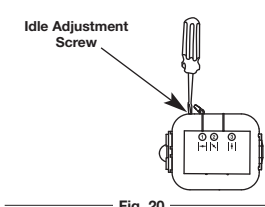

Fig. 20
The idle speed of the engine is adjustable. An idle adjustment screw is between the air filter cover and the engine starter housing (Fig. 20).
2. Release the throttle trigger and let the engine idle. If the engine stops, insert a small Phillips in between the air filter cover and the engine cover (Fig. 20). Turn the idle speed screw in, clockwise, 1/8 of a turn at a time (as needed) until the engine idles smoothly.